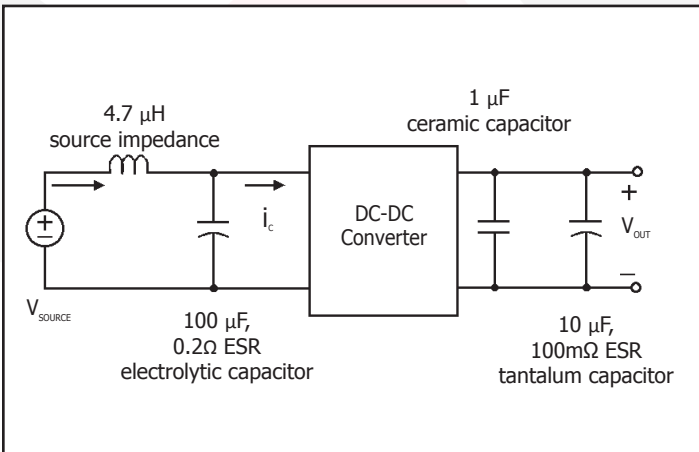

Figure 17: Test set-up diagram showing measurement points for Input Terminal Ripple Current (Figure 9) and Output Voltage Ripple (Figure 10).
Note 3: Recommended minimum output capacitance is defined in figure 17. The product will function without any external capacitance but may exceed the output ripple specifications.
**Figure 9:** Input terminal current ripple,  $i_c$ , at full rated output current and nominal input voltage with SynQor MCOTS filter module (100 mA/div). Bandwidth: 20MHz. See Figure 17. Time (1µs/div).
**Figure 10:** Output voltage ripple,  $V_{out}$ , at nominal input voltage and rated load current (100 mV/div). Load capacitors: 1µF ceramic and 15µF tantalum. Bandwidth: 20 MHz. See Figure 17. Time (2µs/div).